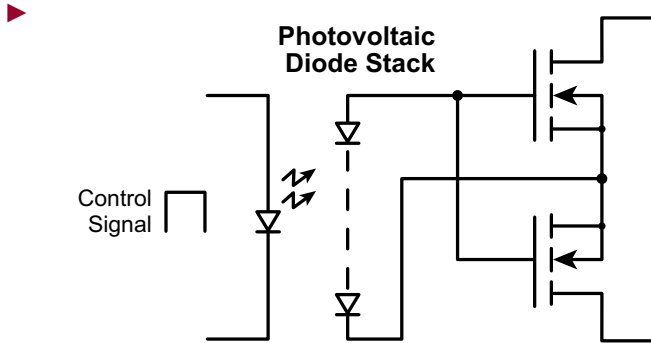

Figure 5: Photovoltaic Drive Scheme
- ▶ Solid-state relays utilize optically-isolated drive schemes for isolation purposes. Figure 5 shows a commonly-used photovoltaic drive scheme. Usually a low voltage is available to turn on the FET to meet the